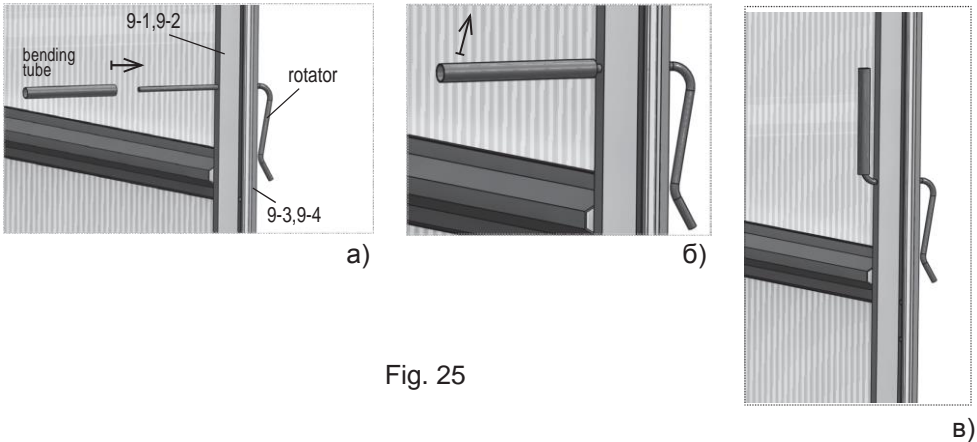

Fig. 25
11. Insert a wire rotator for locking of doors and small windows into holes of door opening stands with straight end against the stop. Use the tube to bend the straight end upward by hand (Fig. 25). Such a construction provides elastic tightness of the door in closed position both from inside and outside of the greenhouse.